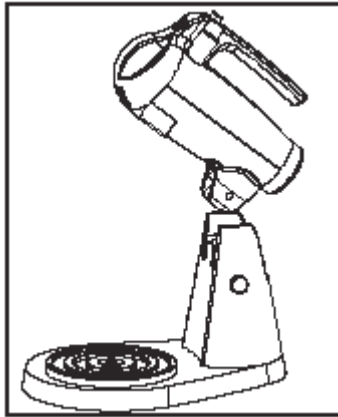

Figure 3: Securing the Mixer Head to the Stand.
2. Place the Mixer Head on the stand so the metal piece on the bottom of the Mixer Head goes into the latch opening on the top of the stand, as shown in Figure 3.